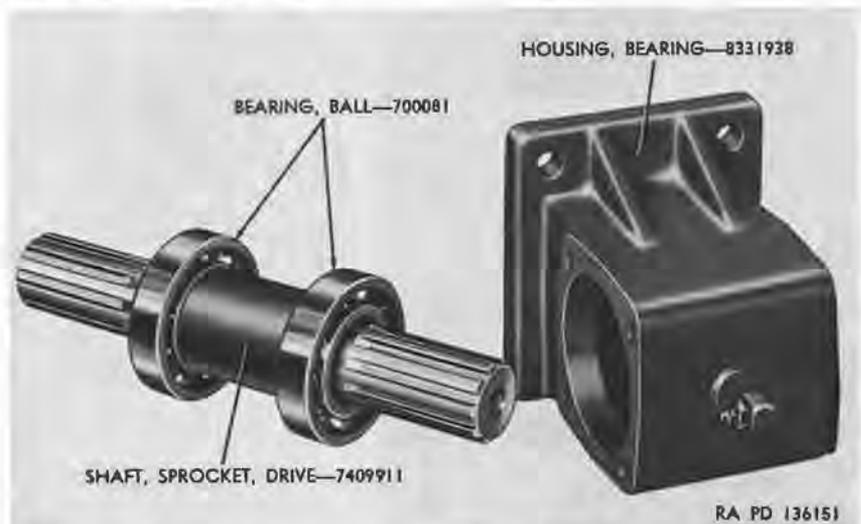

Figure 98. Removal of drive sprocket shaft and bearings from bearing housing.
d. Remove drive sprocket shaft with ball bearings from bearing housing (fig. 98).